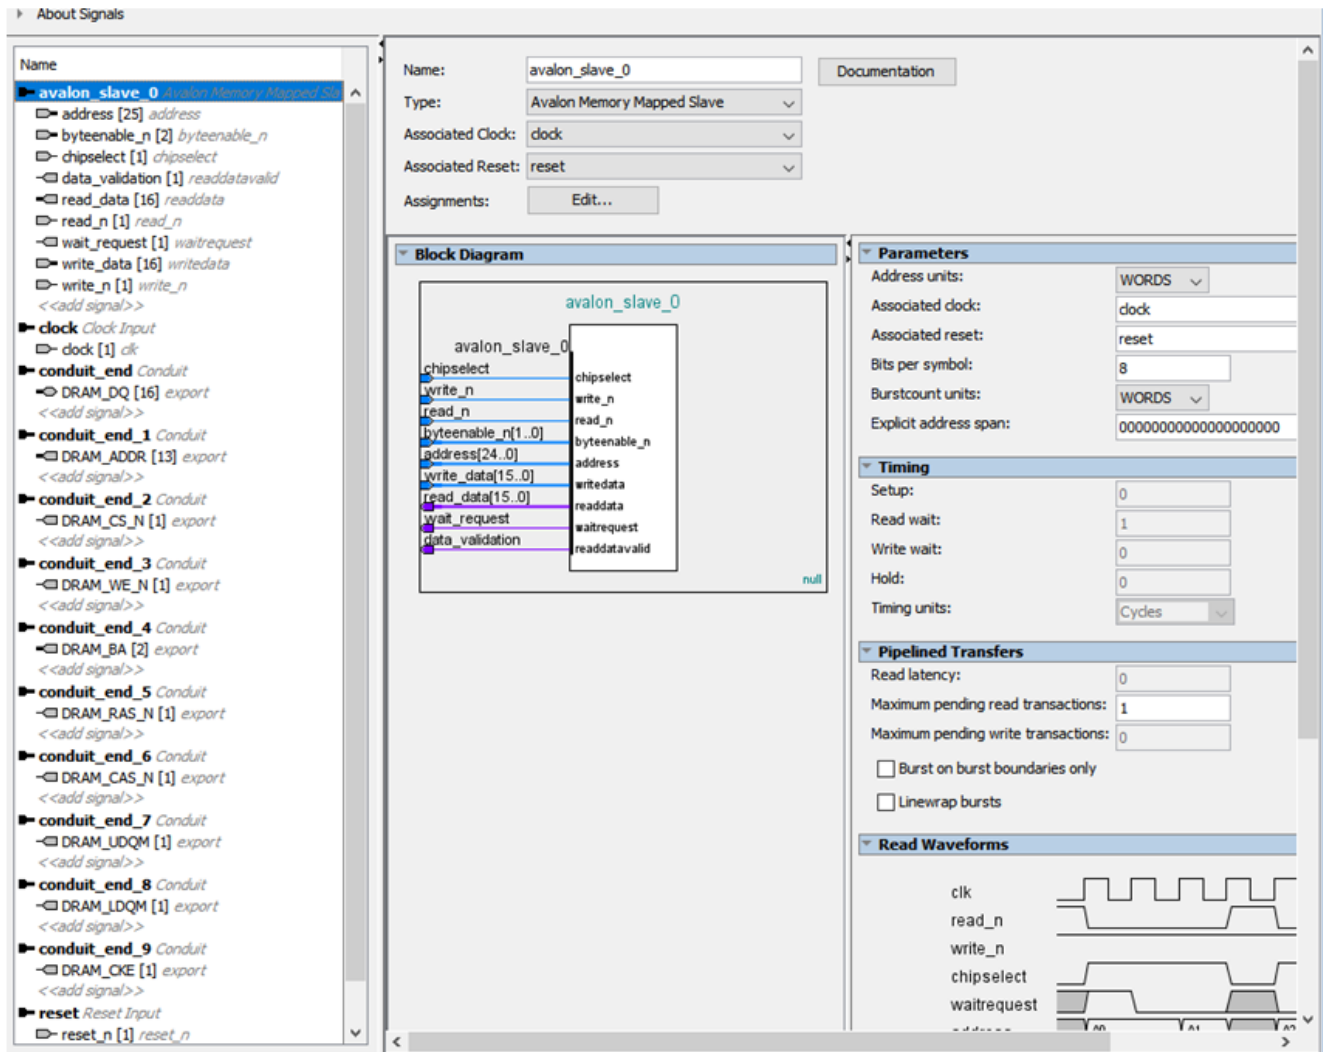

Figure 4: Creating Conduit Interfaces
- (a) Create 10 Conduit interfaces by clicking “<<add interface>>”, which is at the bottom of the “Name” panel of the Component Editor window, and move the 10 signals whose names start with “DRAM\_” (if you followed the naming schemes of **SDRAM\_Controller.v**) from the “Avalon\_slave\_0” category to the 10 conduits.(Figure 4)